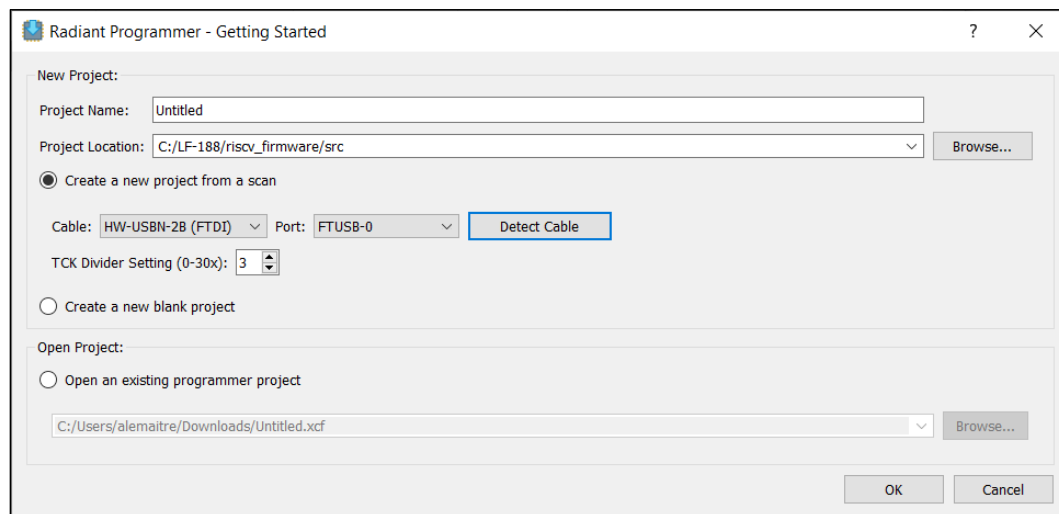

Figure 2.2. Lattice Radiant Programmer New Project Window
2. Launch the Lattice Radiant Programmer. The **New Project** window as shown in Figure 2.2 is displayed. If the **Cable** option is not set, the CrossLink-NX-33 VVML board is not connected properly to the host computer.